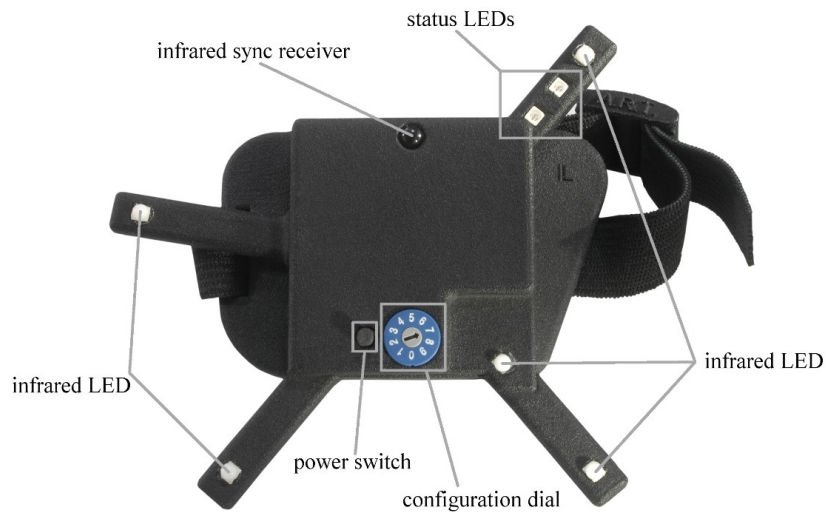

Figure 5.49: *Fingertracking* hand target (discontinued)
- a hand target unit for fixing on the back of the hand with IR LEDs (active markers) for tracking (see figures 5.49 on page 111).
**On/off button** Pressing the small black button next to the configuration dial activates or deactivates the target (please refer to figure 5.49 on page 111). After turning on the hand target unit, the status LEDs light up according to table 5.11 on page 112. When
**Configuration dial** The configuration dial is used to select the LED brightness and the number of fingers used in the setup (please refer to figure 5.49 on page 111). A detailed description of the configuration dial may be found in table 5.12 on page 112.
The black sphere on top of the *Fingertracking* hand targets is a receiver for the coded IR flash (i.e. modulated infrared signal) which is used for synchronization (see figure 5.49 on page 111). This coded signal can be generated by all *ARTTRACK* cameras (*DTRACK3* is required). In some cases (discontinued products) an additional external flash is necessary. Please contact your *ART* representative.